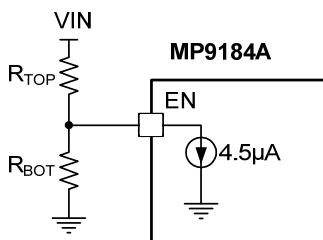

Figure 2:  $V_{IN}$  VULO Program
The MP9184A features a programmable UVLO hysteresis. When powering up, EN sinks a 4.5μA current from the upper resistor,  $R_{TOP}$  (see Figure 2).  $V_{IN}$  must increase in voltage to overcome the current sink. The  $V_{IN}$  start-up threshold is determined by Equation (2):